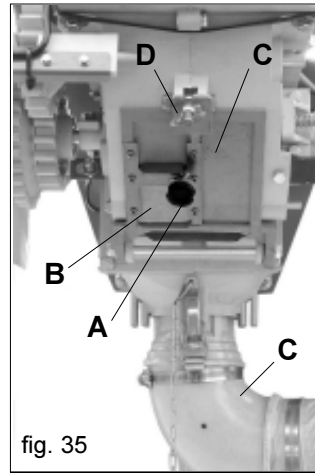
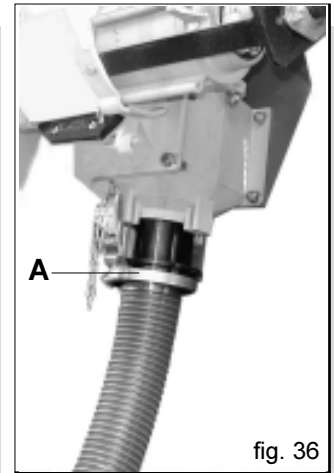

fig. 35
fig. 36
- a) put a bag or a container under the discharge hatch of the dosing apparatus, and then unscrew the knob (A Fig. 35) to discharge the hopper contents through the hatch (B). Lastly, open the discharge hatch (C Fig. 35) by unscrewing the wing nut (D Fig. 35) to empty the remaining contents of just the doser;
- b) Remove the bend under the injecting tube (C Fig. 35), and then attach the collecting tube supplied with the machine (A Fig. 36) in the same position and place a collecting container at the other end of the tube; turn the transmission wheel in the direction of travel using the handle.